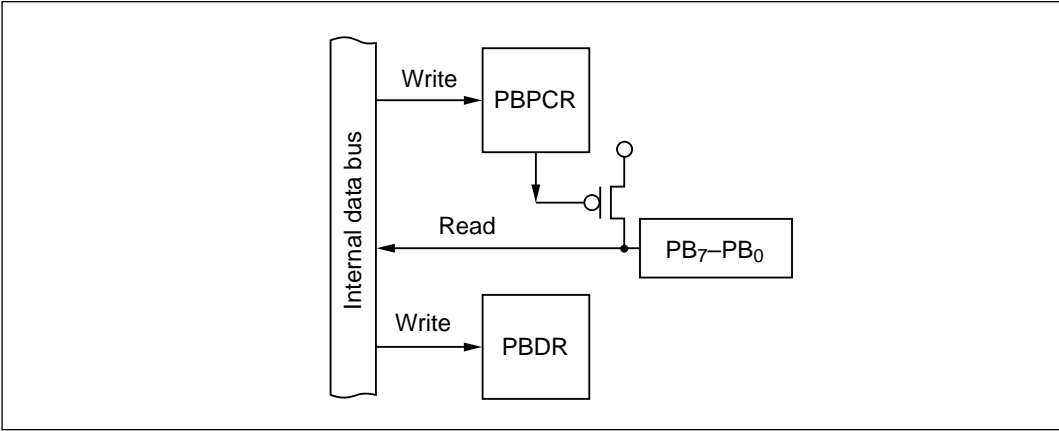

Figure 10-79 Input Port with Built-In Pull-Up Transistors (Mode 7)
(2) **Input Port with Internal Pull-Up (All Pins: Mode 7):** Figure 10-79 shows a block diagram illustrating the general-purpose input function and built-in input pull-up transistors. Table 10-60 indicates register read/write data. Values written in the port B data register (PBDR) have no effect on general-purpose input lines. When read, PBDR returns the value at the pin. When a bit in the port B pull-up transistor control register (PBPCR) is set to 1, the corresponding PBDR bit always reads 1.